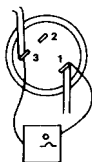

FIGURE 10. OVERLOAD CHECK
OVERLOAD CHECK (See Figure 10)
3. Compressor thermal overload, automatic reset type. See Figure 10